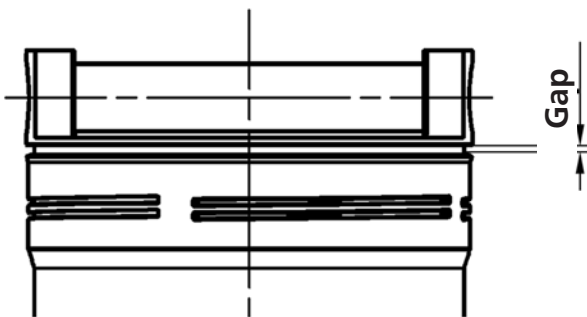

Fig. 3: Gap at the filter cover
- ▶ Manually turn the cover until it stops; a gap between cover and housing may remain visible (see Figure 3).